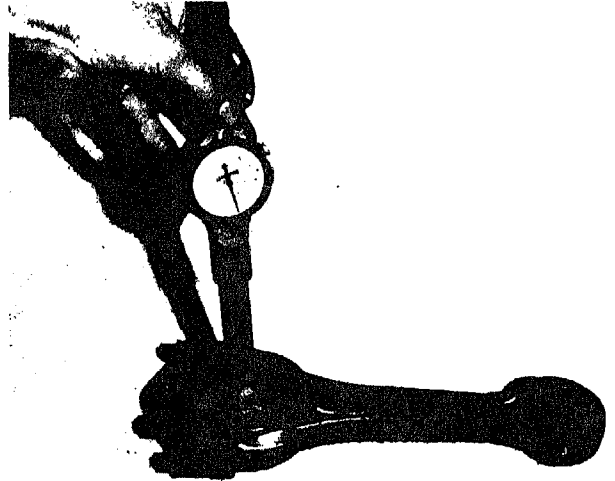
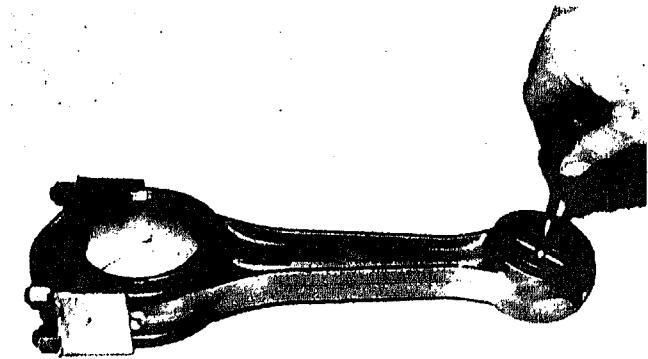
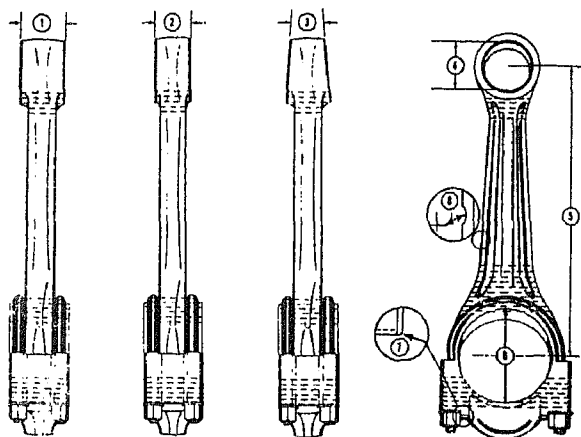

Fig. 1-8-1. Checking connecting rod crank journal bore
Fig. 1-8-2. Checking connecting rod piston pin bushing
Fig. 1-8-7 Connecting rod specifications
- b. Check rods for cracks with 3000 to 3400 ampere-turns with AC equipment or 2600 to 2800 ampere-turns with DC or rectified AC equipment in a coil. Pay particular attention to shaded critical areas shown in Fig. 1-8-7.
3. Check crankpin bore with a dial bore gauge or inside micrometers. Correct size is important to provide correct bearing crush. See Table 1-8-2, Fig. 1-8-1 and (6, Fig. 1-8-7).
4. Check piston pin bushing diameter with plug gauge or with inside micrometers. See Table 1-8-2, Fig. 1-8-2 and (4, Fig. 1-8-7).
1. Select a new rod that has been checked for correct absolute center to center length. C rods are 9.500 in. [241.3000 mm] between centers. (Production rods may vary from 9.498 in. to 9.500 in. [241.2492 mm to 241.3000 mm] (5, Fig. 1-8-7).
(7, Fig. 1-8-7). Maximum  $\frac{1}{16}$  in. [1.5875 mm] metal may be milled off to restore radius.
2. Remove nicks and dents which are less than  $\frac{1}{16}$  in. [1.5875 mm] deep by grinding or filing with a half-round file. Radius must be  $\frac{1}{2}$  in. [12.7000 mm] or more. Blend radii at ends of cut. Scrap rod if dents are deeper than  $\frac{1}{16}$  in. [1.5875 mm] (8, Fig. 1-8-7).
**Note:** Three types of connecting rods are used in the series engines "straight-wide (1, Fig. 1-8-7) 1.515/1.570 in. [39.3700/39.8780 mm] and narrow (2) 1.150/1.160 in. [29.2100/29.4640 mm] and tapered (3)". Do not mix types of rods in any engine.
- d. Bore new bushing to 1.500/1.5005 in. [38.1000/38.1127 mm] (4, Fig. 1-8-7).